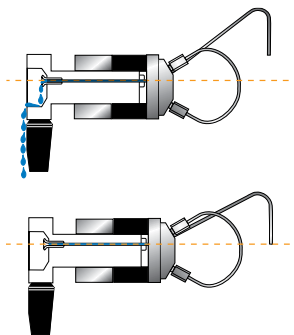

Figure 2 Needle port level compared to the level of vent line outlet:
- 3 If fluid leaks from the needle port and/or vent lines but eventually stops, the cause is most likely siphoning and not a leak. Siphoning occurs if the vent lines are lower or higher than the needle port. Adjust the vent line(s) so that the outlet is at the same horizontal level as the needle port to prevent siphoning. (See Figure 2).